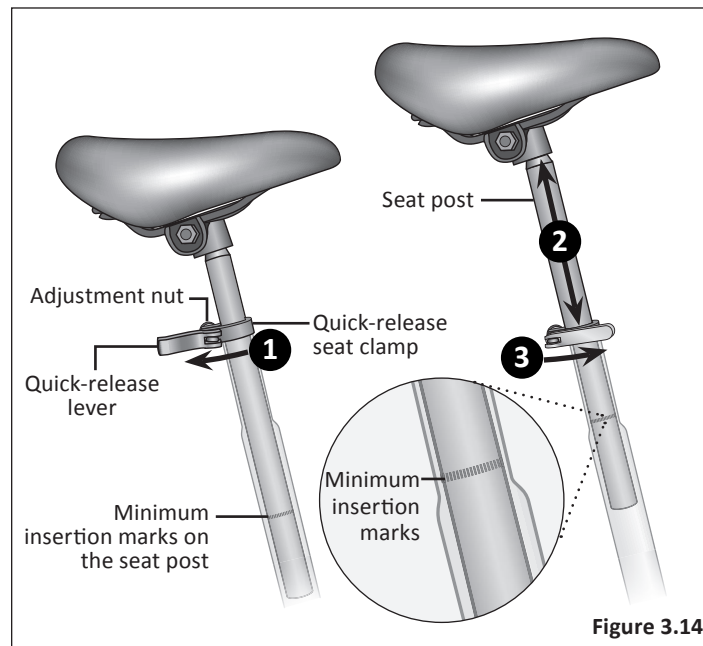

Figure 3.14
- 1 Unlock the quick-release lever and insert the seat post into the seat tube. **Figure 3.14**